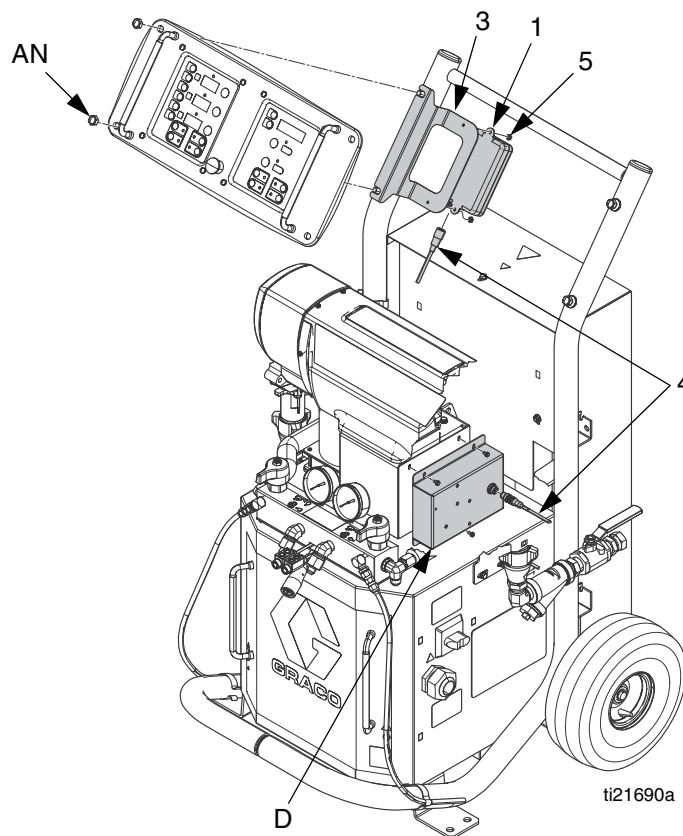

FIG. 7
19. Loosen left side acorn nuts (AN) holding Reactor display to frame until display can be lifted enough to slide bracket between frame and display. See FIG. 7.
20. Slide bracket between display and frame so that bracket mounts to the behind the display with the LED status window (AA) visible to operator and the cable connector on the bottom. See FIG. 7.
21. Tighten acorn nuts (AN) to secure bracket in place. See FIG. 7.
22. Connect 4-pin end of cable (4) to cellular module (1) connector. See FIG. 7.
23. Route cellular module cable (4) to control box (D). Secure with wire ties (8) as needed.
24. Connect other end of cellular module cable (4) to control box (D) connector.